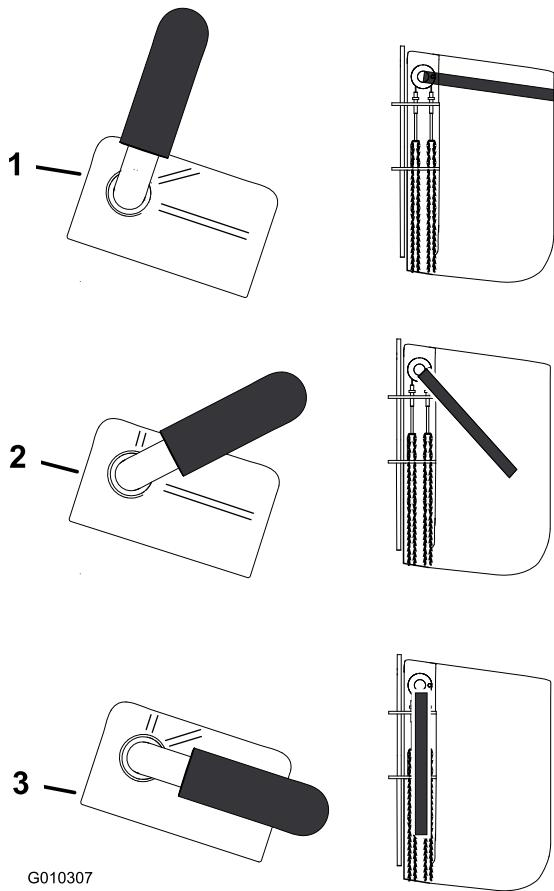

Figure 12
- Rotate the chute gate handle to the open position to allow grass clippings to discharge (Figure 12).
- Rotate the chute gate handle to the 45 degree angle to deflect the grass clippings (Figure 12).
- Rotate the chute gate handle to the closed position to stop the grass clippings (Figure 12).